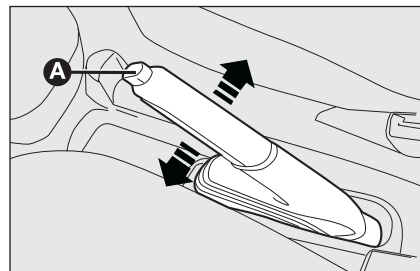

fig. 1
- ☐ slightly lift the handbrake and press the release button **A**-fig. 1;